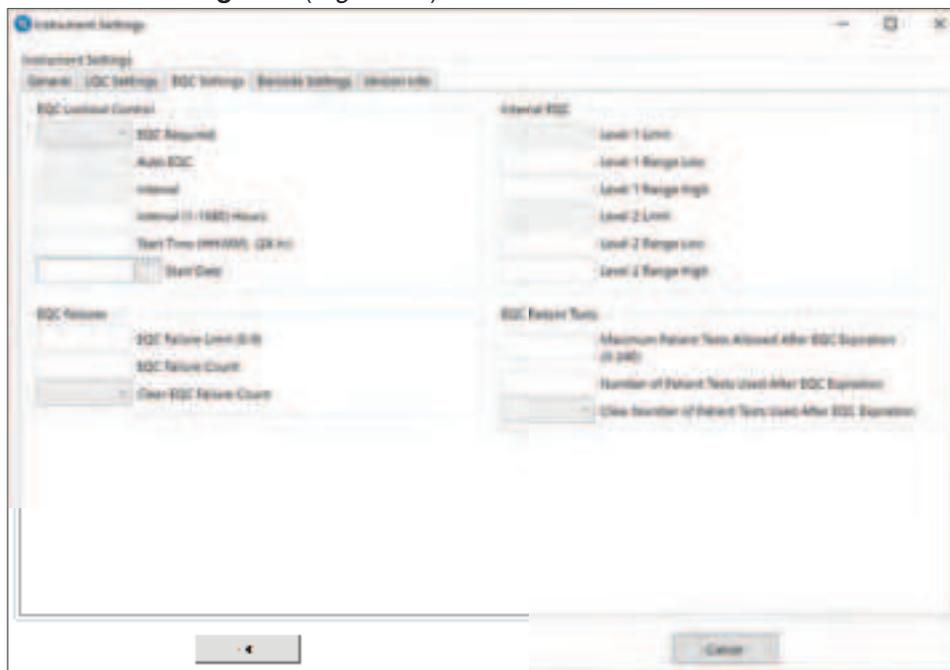

Figure 59: Clear an EQC Lockout in CCM
- 1 Select the **EQC Settings** tab (Figure 59).